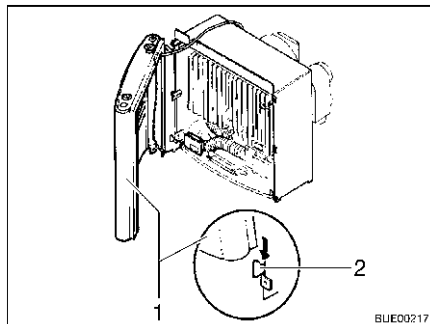

Fig. 111 Heater cover, retaining clips
- Mount the heater cover. To do this, place the cover (Fig. 111,1) on the lower retaining clips (Fig. 111,2).